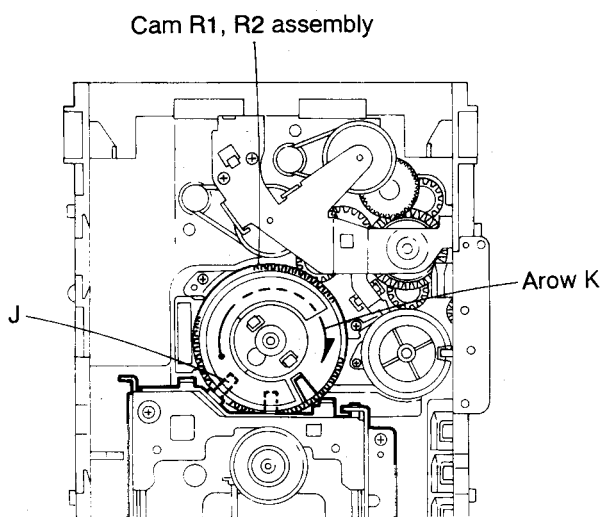

Fig. 5-33
■ Removing the CD mechanism (See Figs. 5-33 and 5-34)
1. For dismantling only the CD mechanism without removing the CD mechanism assembly, align the shaft (L) of the CD mechanism assembly to the position shown in Fig. 5-33 while turning the cam R1 and R2 assembly in the arrow direction (K).